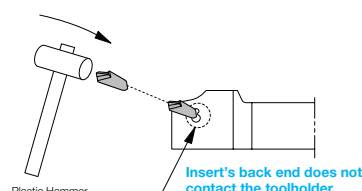

Fig. 1 How to Attach Inserts
- Tap the insert lightly with a plastic hammer to push it tight enough that it cannot be removed by hand. (Fig.1)